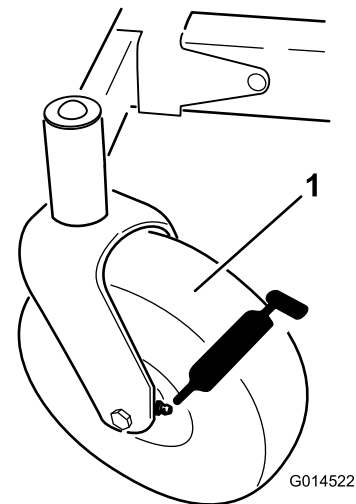
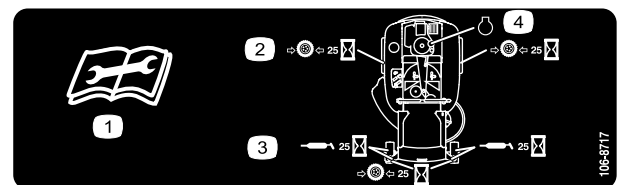

Figure 28
Figure 29
3. Clean the grease fittings (Figure 28 and Figure 29) with a rag. Make sure to scrape any paint off of the front of the fitting(s).
4. Connect a grease gun to each fitting (Figure 28 and Figure 29). Pump grease into the fittings until grease begins to ooze out of the bearings.